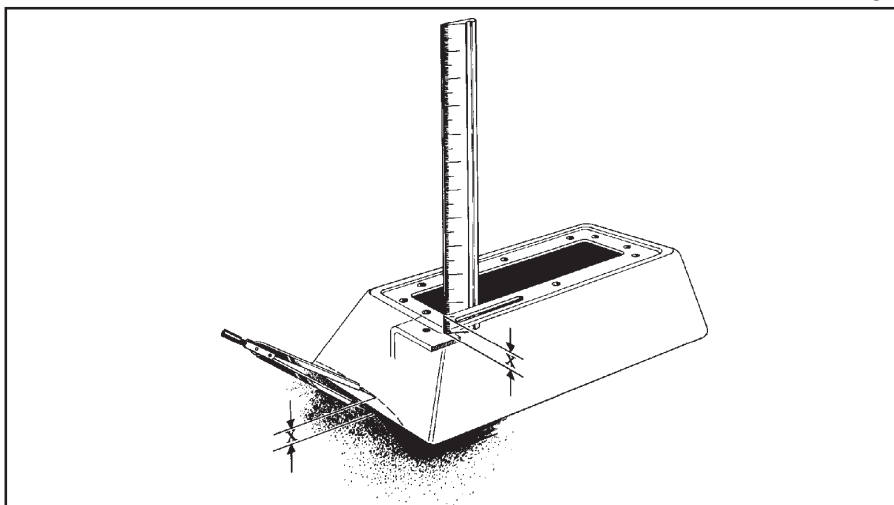

Figure 9
STEP 27. Place the tower over the shifter mechanism until the bottom edge of the tower touches the floor. Put the shifter cover and the indicator cable through the opening in the top of the tower. Hold the tower level to the shifter with the bottom of the tower touching the highest surface on the floor it will come into contact with (**See Figure 9**). Use a ruler to measure the distance X from the underside of the tower to the tower mounting brackets on the shifter mechanism.
STEP 28. Set a pair of dividers at the distance X, measured in **step 27**. Hold the tower level to the shifter mechanism with the bottom of the tower touching the highest surface on the floor it will come into contact with. Holding the tower in position, place one leg of the divider against the floor while the other touches the tower (**See Figure 9**). Using the dividers, scribe a